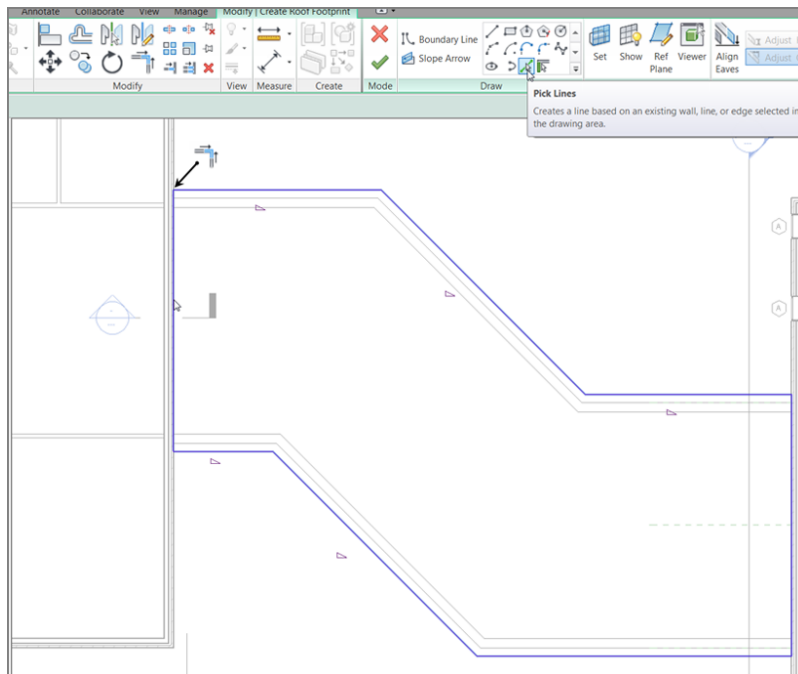

FIGURE 7.24: You must pick lines to trace the terminating walls of the roof.
2. On the Draw panel again, click the Pick Lines icon, as shown in Figure 7.24.
5. Pick the east wall of the west wing and the west wall of the east wing (see Figure 7.24).